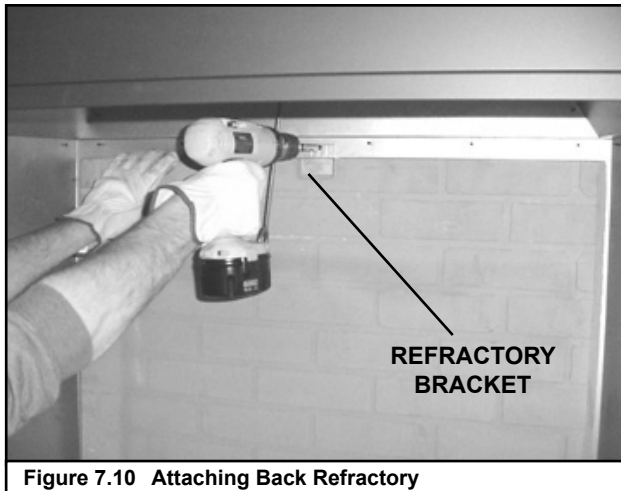

Figure 7.10 Attaching Back Refractory
- Secure back refractory in place with a screw and bracket supplied in hardware package. See Figure 7.10.